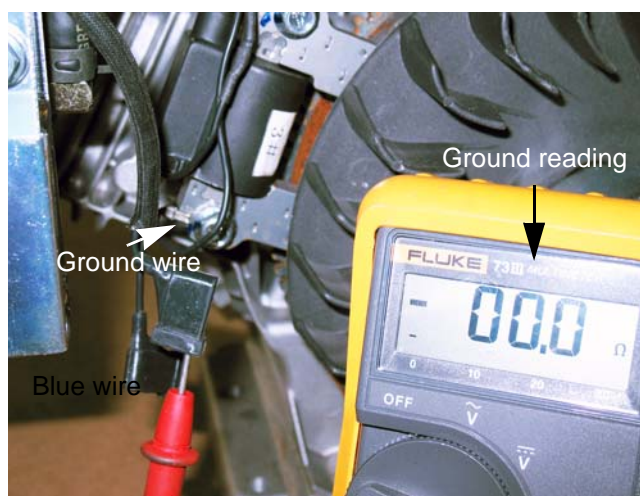

Figure 7.9
7. Repeat steps 6 - 8 on the other wire. See Figure 7.9.